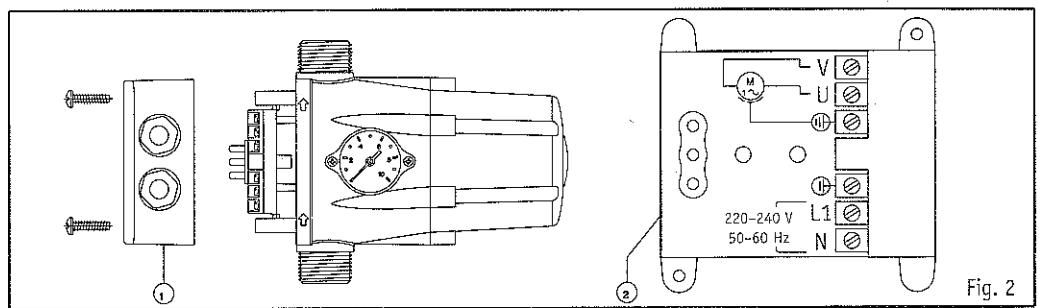

Fig. 2
ELECTRIC CONNECTION (fig. 2)
- d) Incorrect electric connection: Verify the connections according to fig. 2